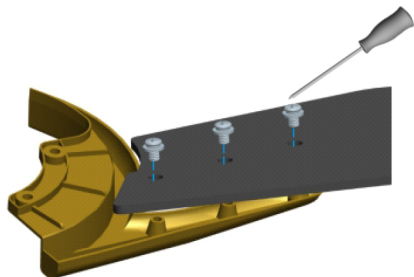

Fig. 6.1
6.1 Locate 9 blade attachment screws in the hardware pack. Secure each blade to the blade bracket using the blade screws as shown in Fig. 6.1.